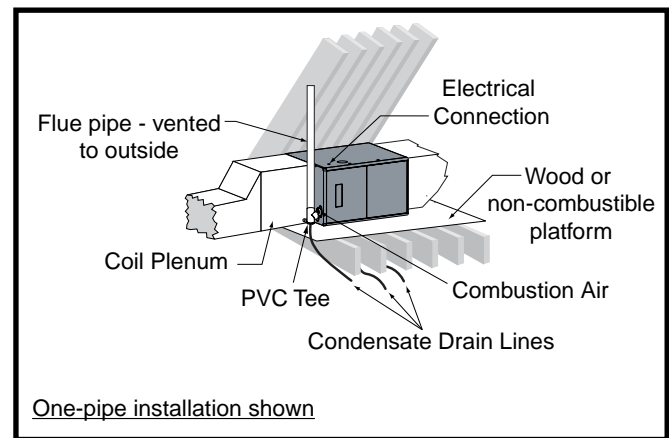
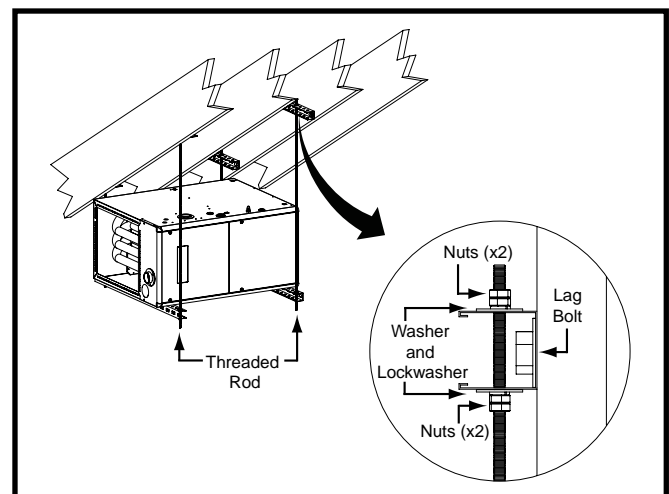

Figure 11. *SC Horizontal installation on a Platform
Figure 12. *SC Horizontally Suspended in Attic
*SC & *SD series gas furnaces can be installed horizontally (Figure 11) in an attic, basement, crawl space or alcove. It can also be suspended from a ceiling in a basement or utility room in either a right to left airflow or left to right airflow as shown in Figure 12.
If installing the furnace in an attic, it is required that a drip pan be placed under the furnace. If the installation is on a combustible platform (Figure 11), it is recommended
If suspending the furnace from the ceiling, assemble a support frame (Figure 12) using slotted iron channel and full threaded rod. Fasten the frame together with nuts, washers, and lockwashers. Secure the support frame to the rafters with lag bolts. The furnace can also be suspended using steel straps around each end of the furnace. The straps should be attached to the furnace with sheet metal screws and to the rafters with bolts.